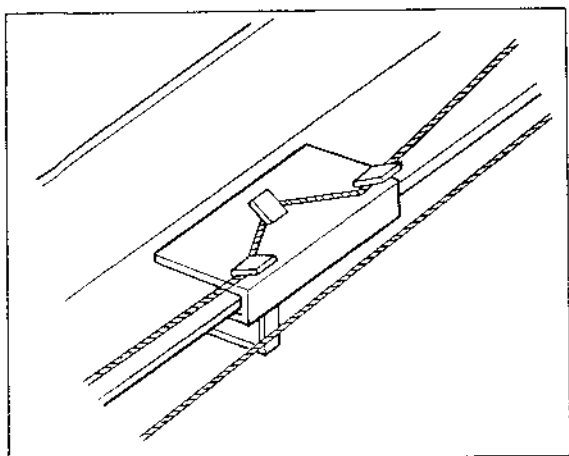

Fig. 2-10. Dial pointer installation
- 8. Put the dial pointer on the cord as shown in Fig. 2-10, and then tune the set to the local fm station. Move the dial pointer to the position where the pointer indicates the local station's carrier frequency. Apply a drop of contact cement to it.